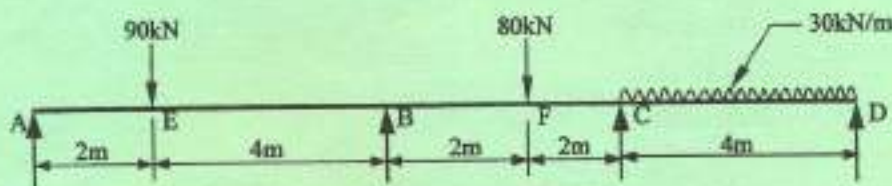

Fig 4
4. Using the three-moment theorem analyse the beam shown in Figure 4 and hence draw the shear force and bending moment diagrams indicating all critical values.